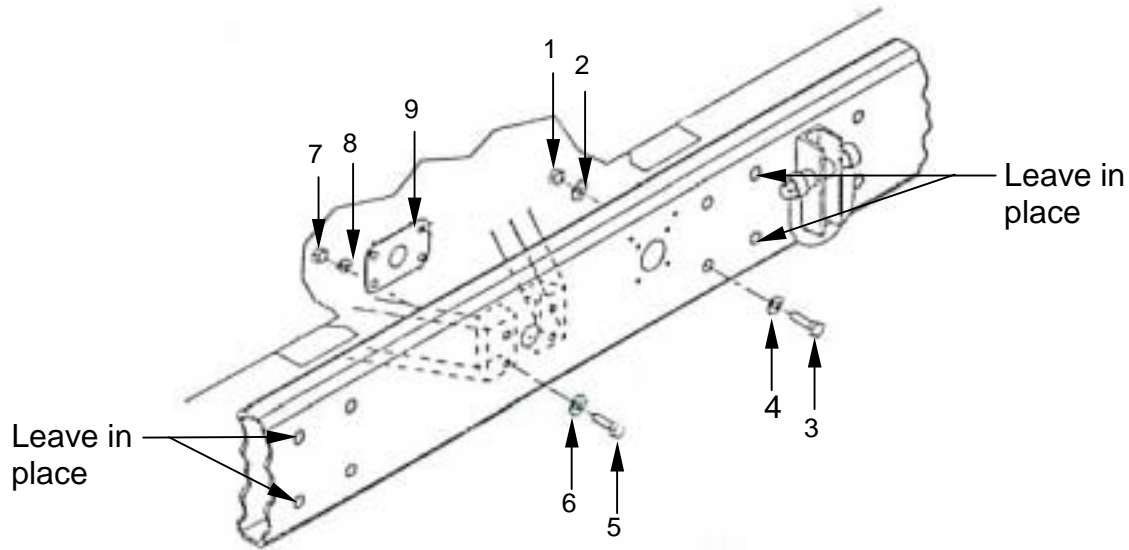

Figure 4-5. Bumper Preparation
(9) Remove two screws and clamps securing body wiring harness to support.
(10) Remove four inside screws ((3)-Figure 4-5, next page), four flat washers (4), four lock washers (2) and four nuts (1) securing rear bumper to right and left inner supports. Retain hardware. Leave the outer four screws in place.
(11) Secure braces to rear bumper with four screws (5), four existing flat washers (6), existing backing plate (9), four locking washers (8), and four nuts (7). Tighten nuts to 90 lb-ft.